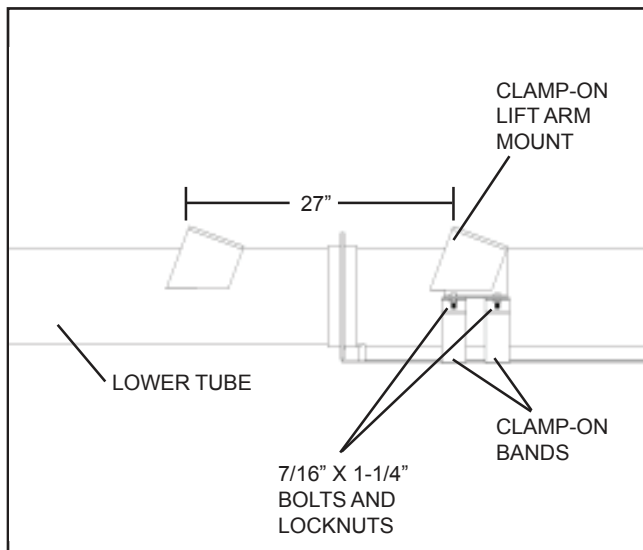

Figure 1
1. Place clamp-on liftarm mount onto upper tube, as shown in Figure 1. The top of the two liftarm mounts (upper and lower) should measure approximately 27" from each other.
2. Attach the two clamp-on half-bands using two 7/16" x 1-1/4" bolts and locknuts (see Figure 1). When satisfied with placement, tighten bolts securely.